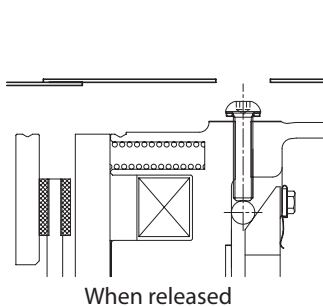

Figure 8-45
- (1) In the case of outdoor types, remove the lid on the window part of the outdoor cover [33]. Remove the grommet [28] (indoor type), remove the brake release bolt [2] using a hexagonal wrench (for an M8 hole bolt), and remove the rubber gasket [3] and the manual release prevention spacer [4]. The brake will release when you again rotate the bolt using the hexagonal wrench. Be careful not to over rotate the brake release bolt. (Rotate the brake release bolt [2] while checking if the brake is released.) (See Figure 8-45)